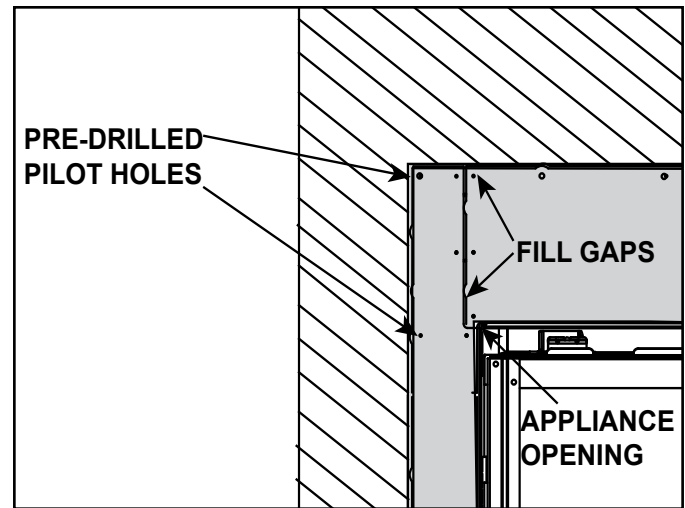
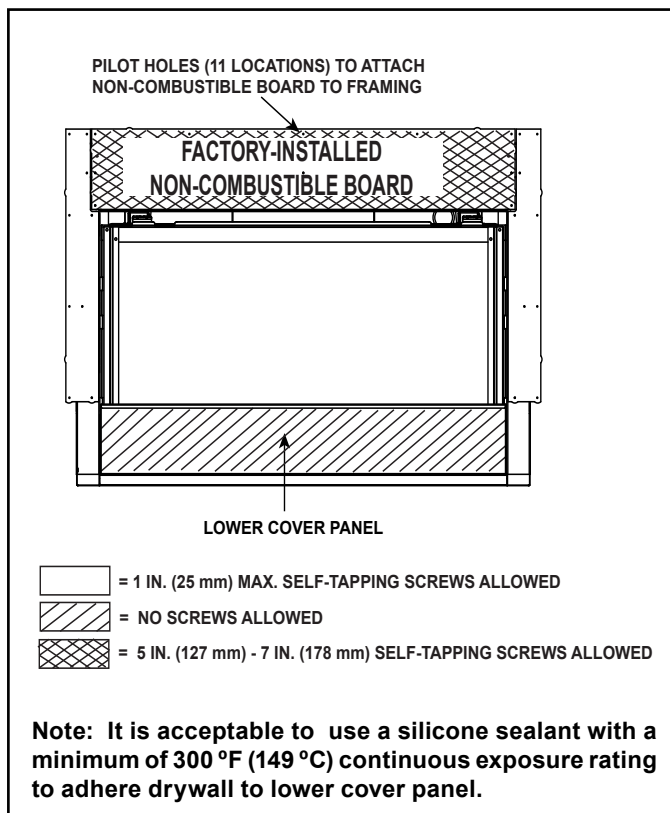

Figure 10.1 Install Non-Combustible Board
Figure 10.2 Finishing Details
The factory-supplied non-combustible board must be used in all installations. It must be directly attached to structural framing adjacent to the appliance. Screw fasteners should be installed in the pilot holes provided in the outer perimeter of the non-combustible board. See Figure 10.1 and Figure 10.2.
2. The appliance ships with the required non-combustible board. The large top piece of non-combustible board is pre-installed at the factory. The narrow left and right non-combustible pieces are shipped within the appliance. Install the non-combustible side pieces with the screws provided in the manual bag assembly. There are pilot holes located on the left and right side columns. Care should be taken not to tighten these screws into the non-combustible board excessively. Set screws flush to the face of the non-combustible board. See Figure 10.2 and Section 6.D.
3. The outer perimeter of the factory-installed non-combustible board has pre-drilled pilot holes. See Figure 10.1. Secure the non-combustible board to adjacent framing with drywall screws that are a minimum of 1-1/4 inch in length. Care should be taken not to tighten these screws into the non-combustible board excessively. Set screws flush to the face of the non-combustible board. See Figure 10.2 and Section 6.D.
4. When installing drywall around the appliance, install a rectangular hole for the fireplace/non-combustible board in a single sheet of drywall. This will minimize the joints that require finishing adjacent to the fireplace opening. Ensure that the 1/8 inch gap is maintained between the factory installed non-combustible board and the surrounding drywall. See Figure 10.1. Secure the drywall to the framing with screws a minimum of one inch in length every six inches across the top of the fireplace and every ten inches on the sides of the fireplace.
1. **Step 1:** Fill all gaps and joints between the non-combustible board pieces and the drywall with a general purpose chemically setting joint compound such as Durabond® 45 Joint Compound manufactured by USG (Sheetrock® brand), recommended by Hearth & Home Technologies. Use a drywall knife to firmly press the joint compound into all gaps. See Figure 10.1. Allow these joints to dry.
It is acceptable to pre-drill holes and use self-tapped screws in the factory-installed non-combustible board to attach non-combustible backer board for tile, marble, etc. Refer to Figure 10.2 for acceptable screw location and screw length requirements.
Do not drill or install screws which may penetrate the lower cover panel as this will restrict required access to the glass, battery-back-up, and control module. See Figure 10.2.